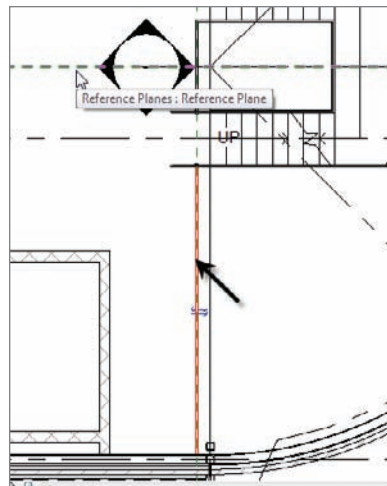

FIGURE 10.29 Mirroring the railing to the north side of the stairs
1. Select the south railing, as shown in Figure 10.29.